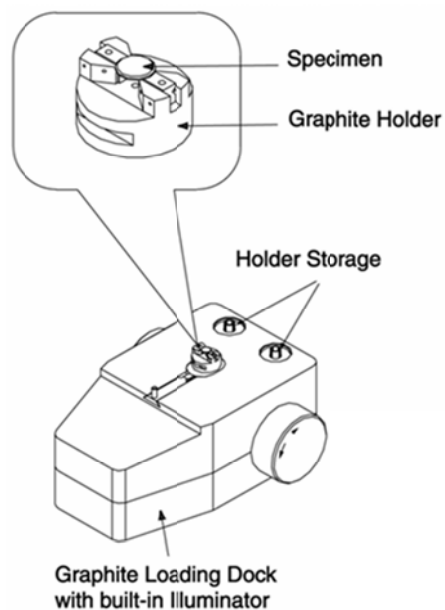

Figure 4-17 Graphite holder loading dock.
1. Completely retract the loading dock tray (Figure 4-17).